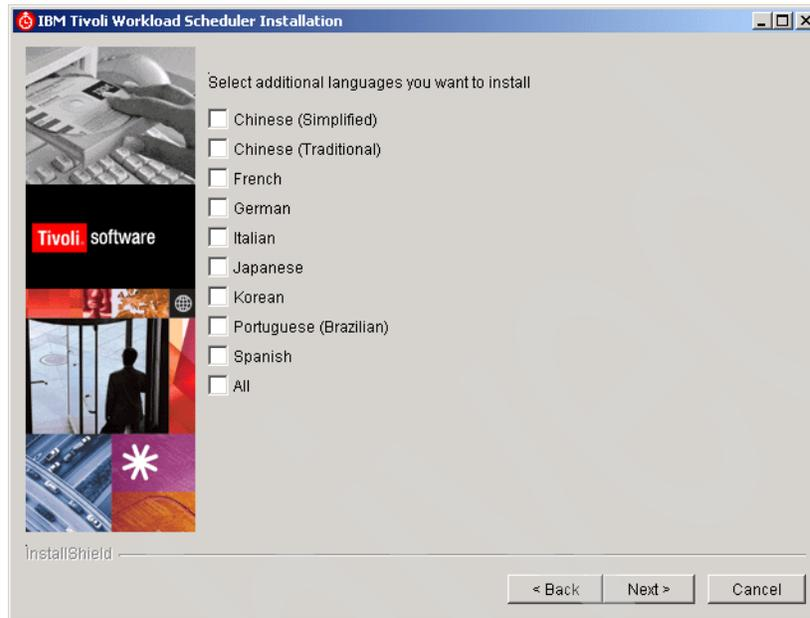

Figure 15-29 IBM Tivoli Workload Scheduler additional languages
10. You have the option of installing additional languages (Figure 15-29). Choose any or all of the listed languages, or simply click **Next** to move on without adding any languages.